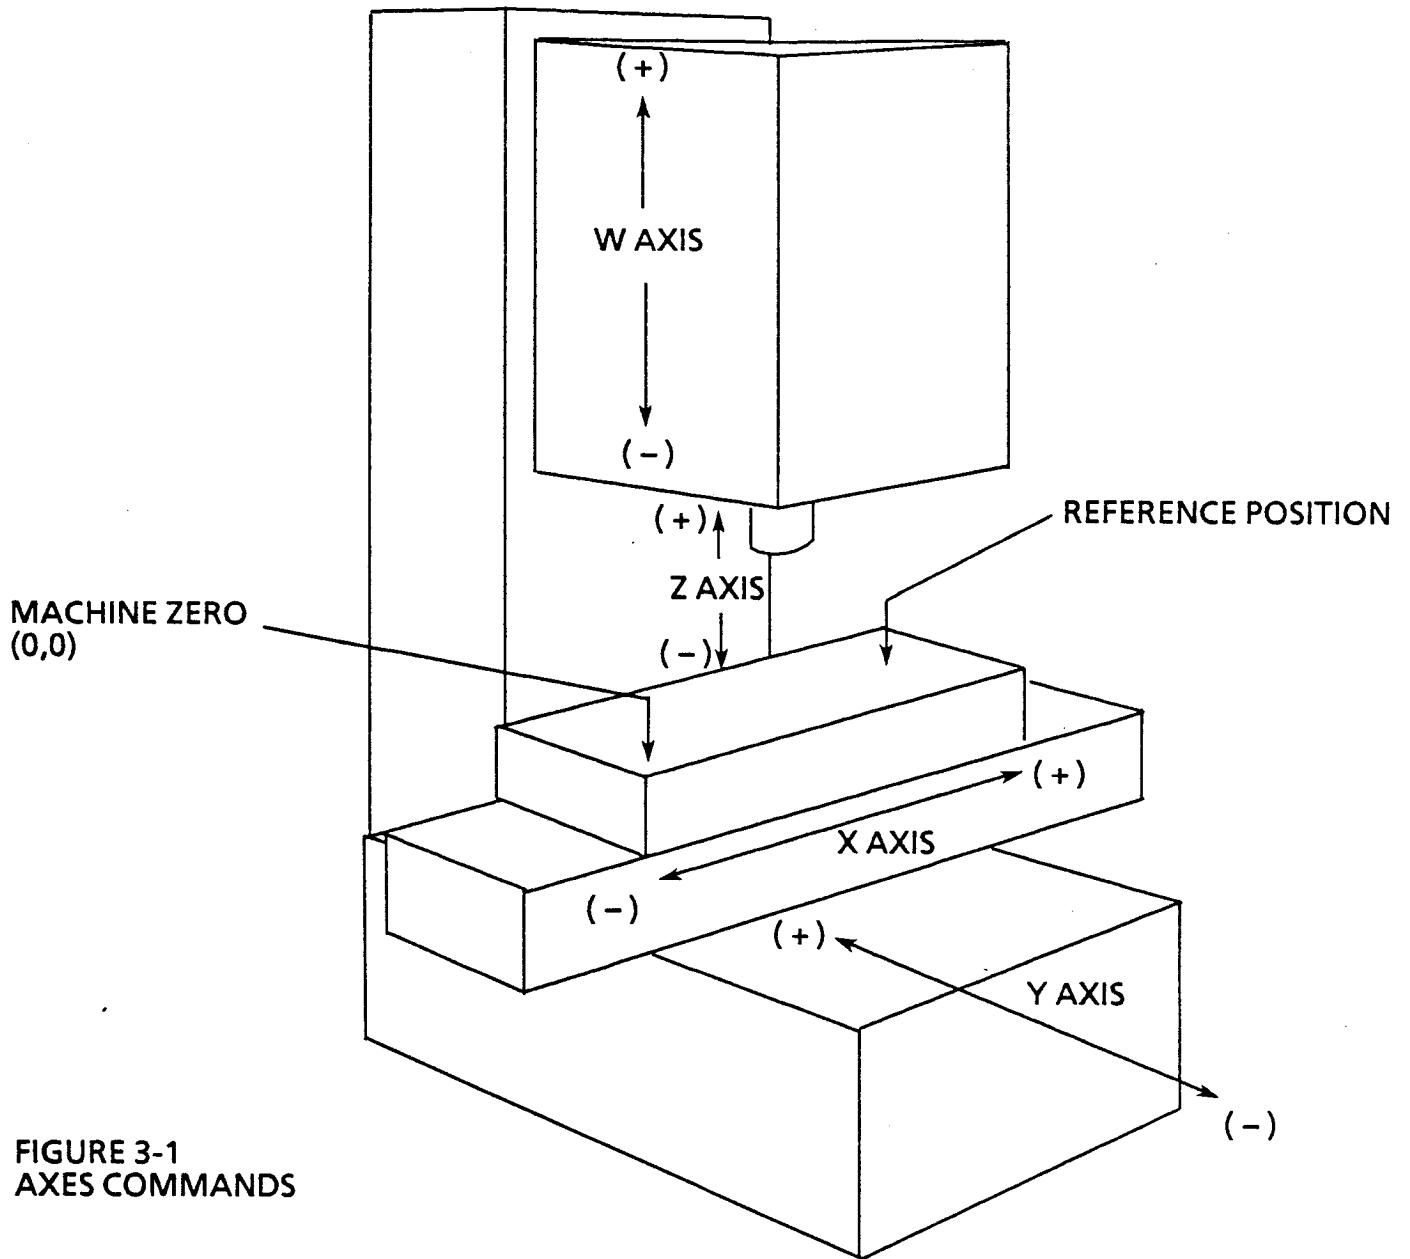

FIGURE 3-1
3.2.3 Axis Commands and Directions (see Figures 3-1 and 3-2)